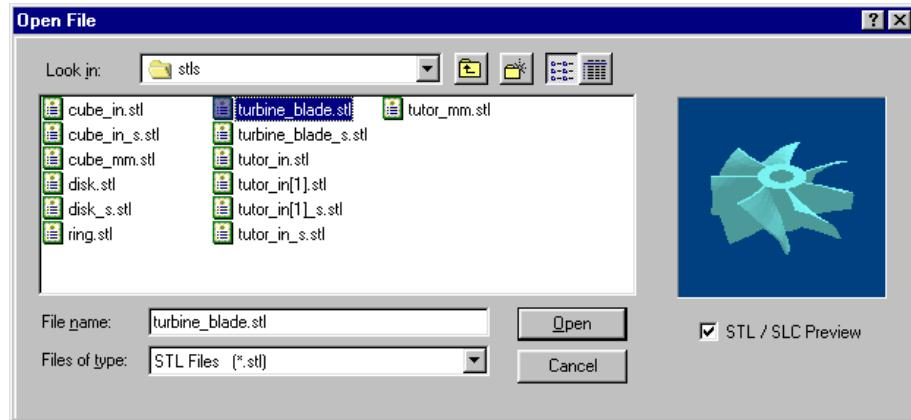

Figure 40. Open File Dialog
2. Click the "Open" ... icon on the Main Toolbar (or pull down the "File" menu and choose "Open..."), to bring up the "Open File" dialog as illustrated in Figure 40.